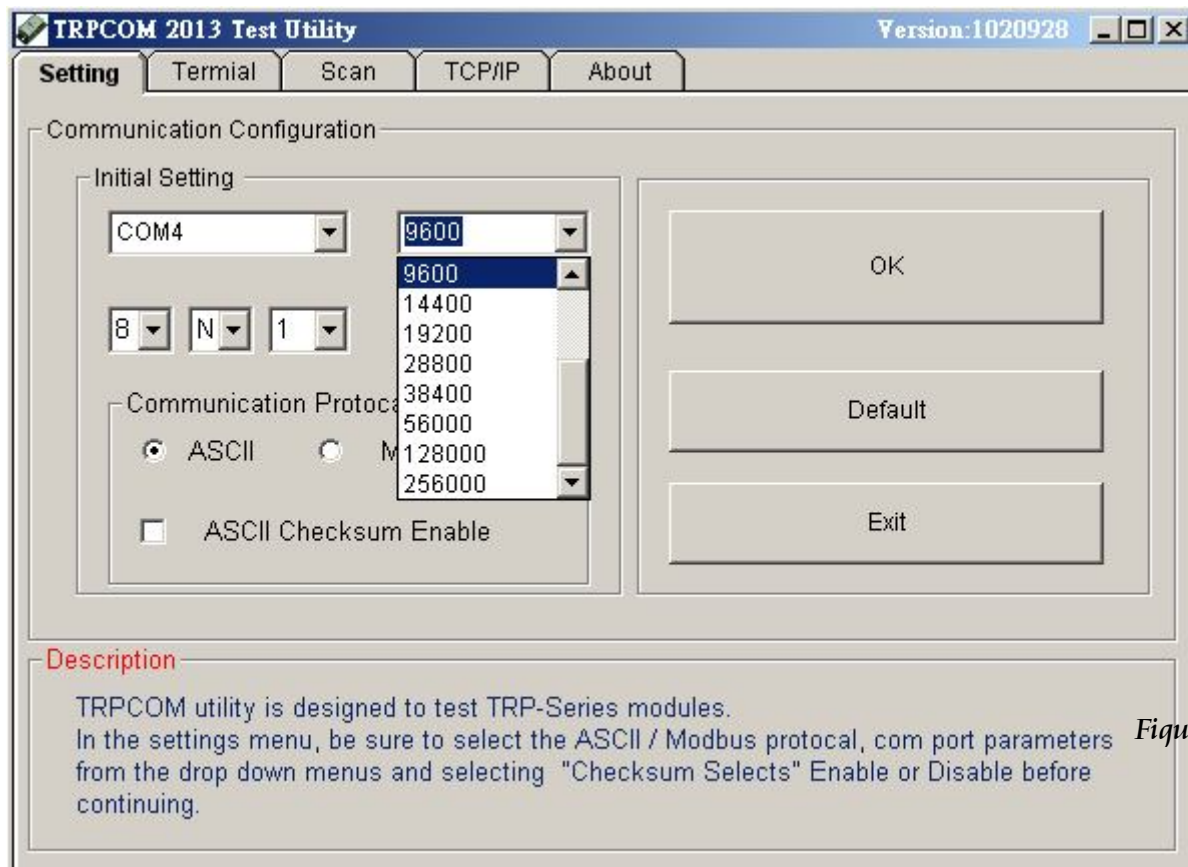

Figure 1
- 1.The "Setting"function is for user to initiate the software to set the Com Port from 1 to 20 and setting the Baud-Rate from 1200 to 115200,Checksum Enable or Disable. ...See Figure 1